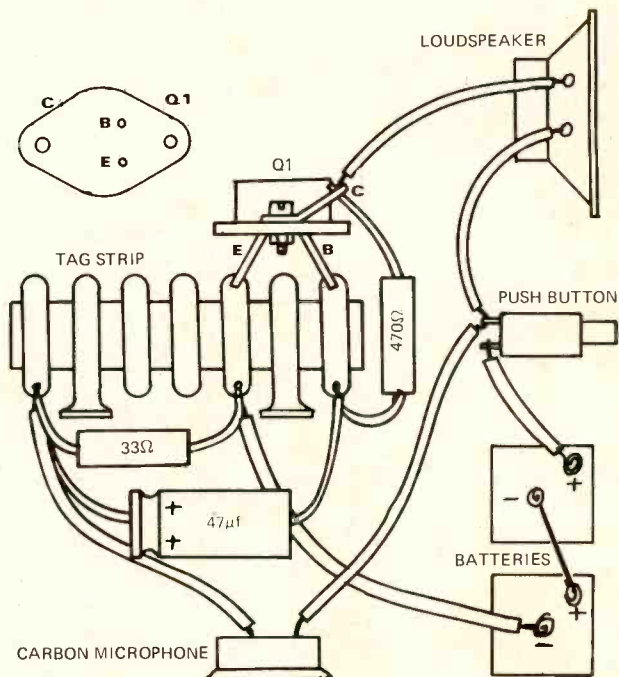

FIG. 2 COMPONENT CONNECTIONS
All the minor components are easily mounted on a single tagstrip (as shown in Fig. 2). This tagstrip may be bolted to one wall of the loudhailer enclosure and wiring taken to the microphone, speaker, pushbutton and battery.
All very well, but what about the external components? Fig. 2 shows the LM380 in two typical applications, count the components for yourself! Data from (2), LM380 from (3) price £1.50 plus VAT.